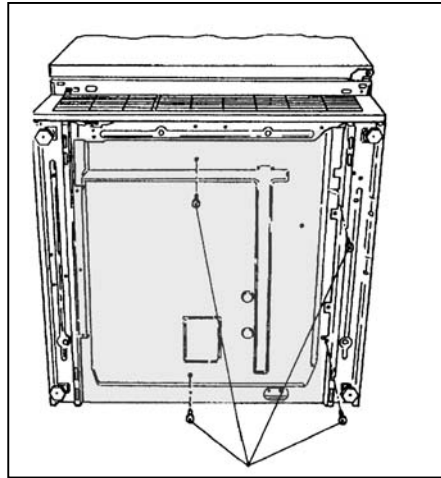

Figure 5-12: Bottom Cover Screws.
2. Remove the four (4) screws that secure the Bottom Cover (Figure 5-12) and lift the cover to remove it from the appliance.